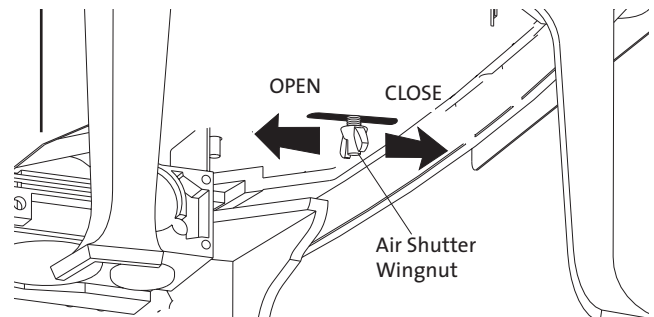

Figure 17. Remove the Air Shutter wingnut and fender washer.
5. Remove the wingnut and fender washer from the Air Shutter stem, located under the stove, directly behind the valve. See fig. 17.